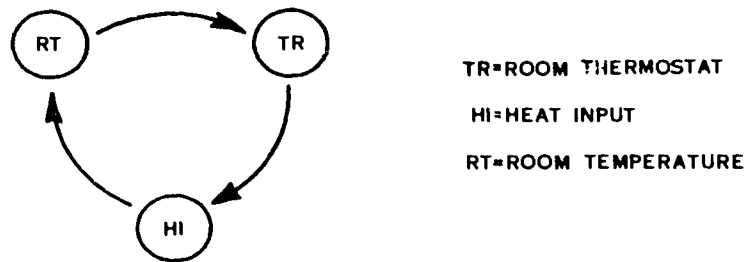

Figure 1-29. Closed Loop System
In figure 1-29 the room thermostat (TR) measures the temperature of the air surrounding it. As the temperature rises, the thermostat causes a reduction of the heat input (HI) to the room, which allows the room temperature (RT) to stop rising or to drop. This, in turn, affects the thermostat, which readjusts its influence on heat input until a balance is stabilized. Thus, one change is dependent upon another and a "closed loop system" has been established.